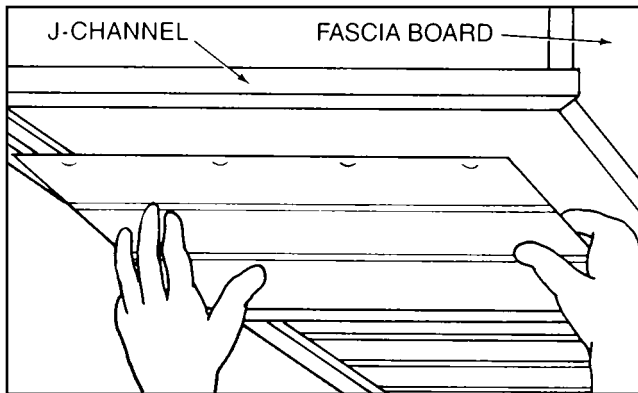

Fig 10.2
- B. If the cut edge of the last soffit panel is outside the V-groove of the panel, use a snaplock punch (see TOOLS, page 25) to prepare the edge. Punch the panel 1/4" from the edge (see Fig.6.6, page 13) every 4"-6" so that the ear or lug is extended down (away from the cave). Install a piece of finish trim into the end J-Channel. Slide the end soffit panel (Fig. 10.2) and insert the cut edge between the face of the finish trim and the J-Channel making sure the "lugs" catch on the J Channel (Fig. 10.3).